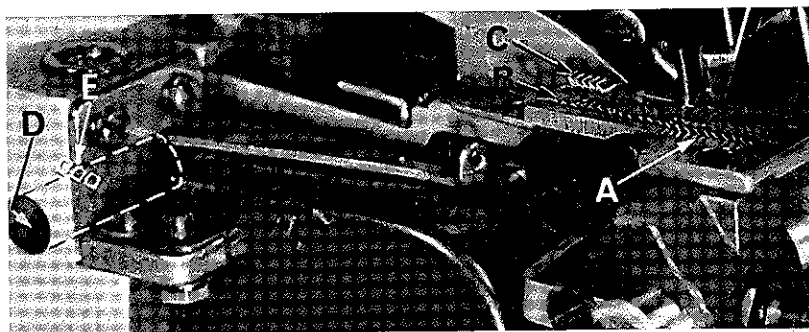

Fig. 10
Now assemble main (back) feed dog (B, Fig. 10) and chaining feed (C). Set all feed dogs (A, B, C, Fig. 10) so the top surfaces of the teeth all lie in the same plane. This can be checked by sighting across the teeth with a straight edge. Now assemble throat plate. Feed dogs should now be leveled with throat plate surface by rotating feed tilting adjusting pin (D). This pin raises or lowers the back end of feed bar.